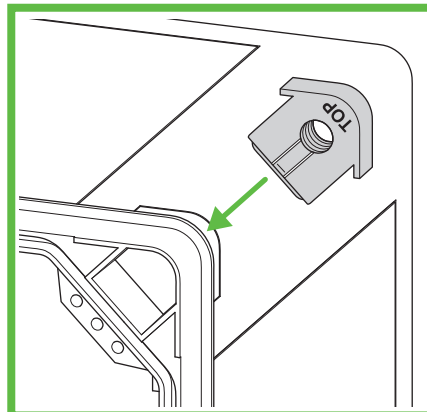
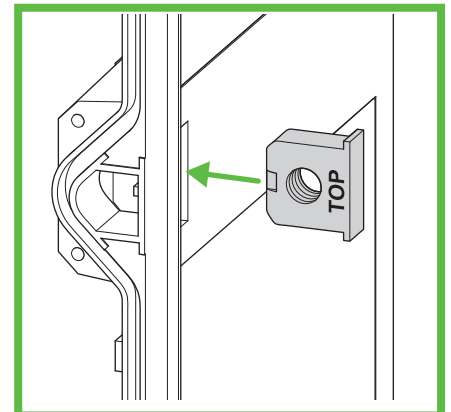

Figure 8: Mount the threaded insert (corner)
Figure 9: Mount the threaded insert (side)
- ▶ Mount the threaded inserts (Abb. 8 and Abb. 9). The lettering "TOP" must point to the housing cover.